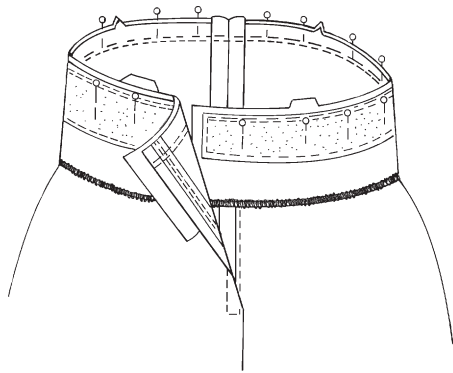

Fig. 12-4
5. Pin the waistband to the garment with the right sides together, matching the notches and easing the garment to the waistband between the markings. (Fig. 12-4) One end of the waistband will be longer than the other to give an underlap when the waistband is fastened. Check the pattern guide sheet to make sure the extension is on the correct side of the opening.